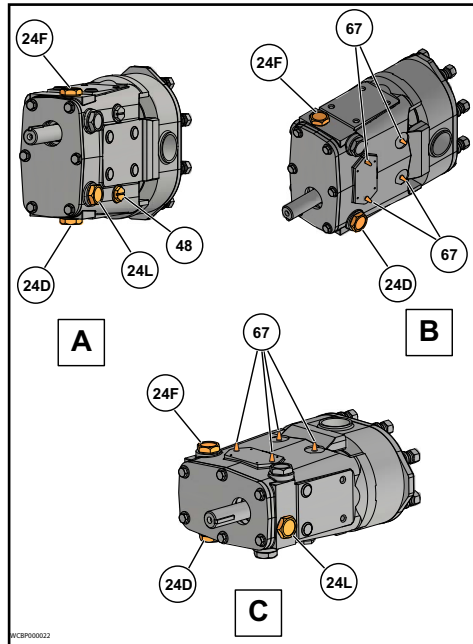

Figure 27 - Lubrication Points
Excess grease will accumulate in the gear case and must be removed through the cleanout hole covered with a plastic plug (Figure 27, item 48).
| Monthly | Excess grease in cleanout plugs | Excess grease accumulates as part of normal operation | Remove excess gear oil from cleanout plugs (Figure 27, item 48 on page 28). |